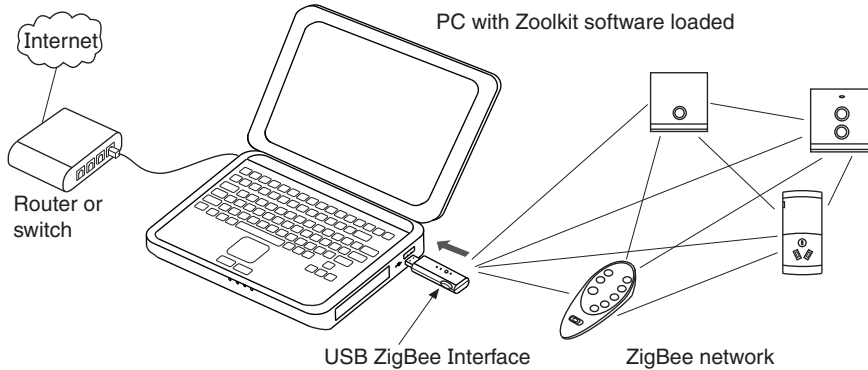
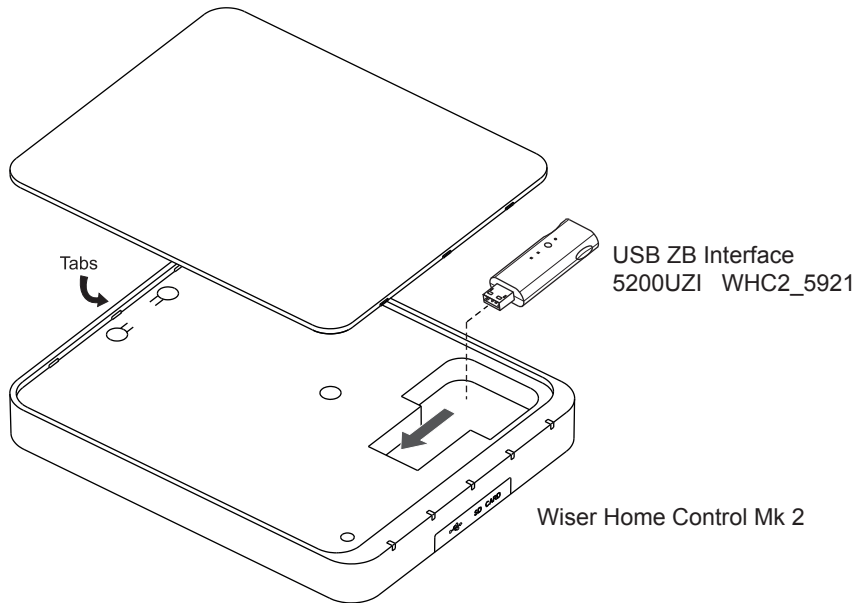

Figure 2. USB ZB Interface installed in a PC
Figure 7. USB ZB Interface installation in a Wisir Home Control
A freestanding PC can be used. The PC must be connected to the Internet when downloading the Zoolkit software application. Be sure to keep the PC within range of the ZigBee network when using this configuration. The PC, USB ZB interface and the ZigBee network are shown in Figure 2.
2. Install the USB ZB interface unit in an active USB port on the PC or in the special location provided under the cover of the Wiser Home Control unit. Refer to Figure 2 and Figure 7 for more information.